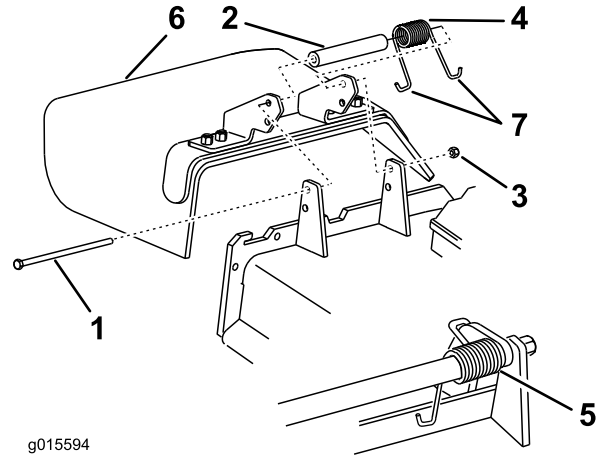

Figure 17
4. Remove the locknut, bolt, spring, and spacer holding the deflector to the pivot brackets (Figure 17).
5. Remove the grass deflector (Figure 17).